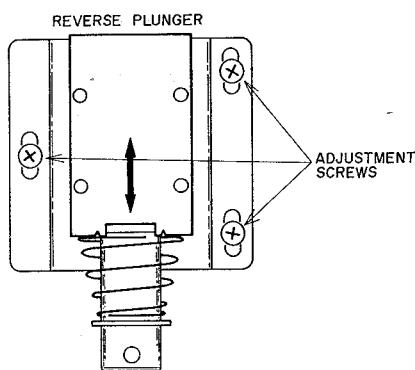

Fig. 8
2. REVERSE PLUNGER INSTALLATION POSITION ADJUSTMENT (Refer to Figs. 8, 9)
Adjust the position of the reverse plunger with the adjustment screws in Fig. 8 so that the working gap of the reverse slide is 5 to 5.3 mm when changing from FWD to REV.